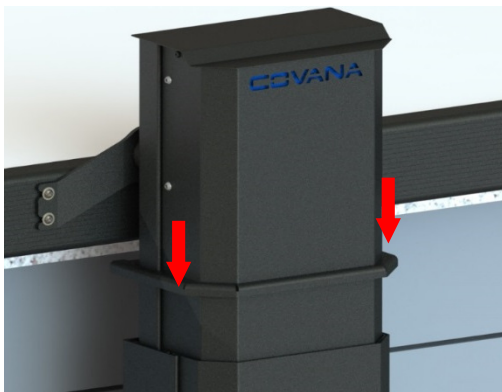

Figure 92
- 2) Depending on the height and the size of the hot tub, fasten the needed arms (either short or long arms) to the sleeve brackets using 1/4-20-5/8 in. carriage bolts, 1/4-20 hex nuts and 1/4 lock washers. Keep these loose for now. (Figure 92)